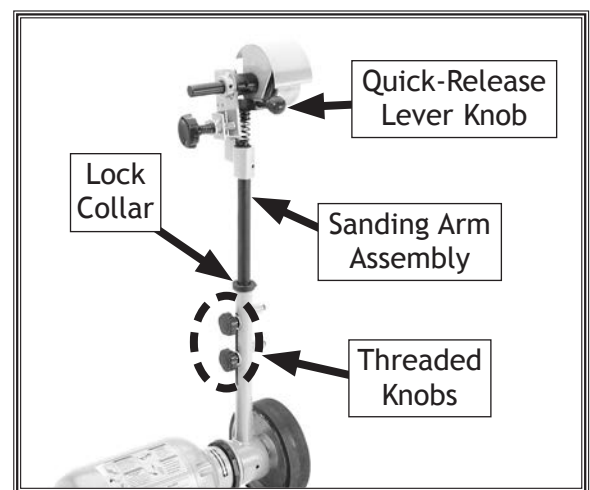

Figure 13. Sanding arm assembly installed.
12. Remove the two threaded knobs and flat washers from the sanding arm assembly, insert the shaft into the pivot arm tube until the lock collar rests on top of the tube, as shown in **Figure 13**, then re-install the knobs and flat washers to hold it in place.
13. Install the quick-release lever knob, as shown in **Figure 13**.